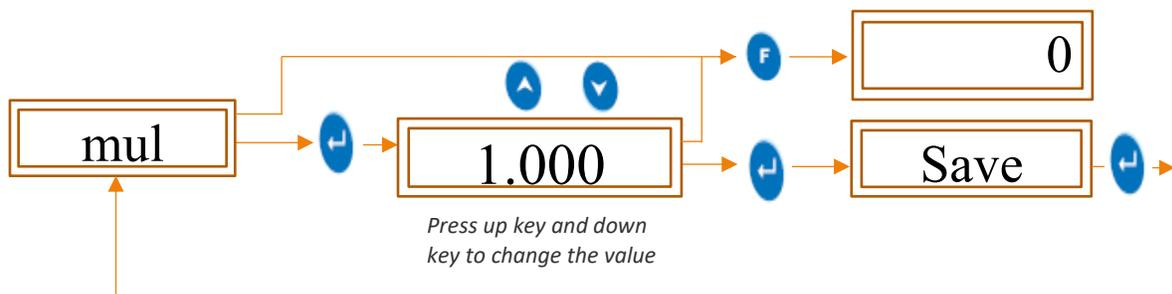

Figure 18 MUL (Multiplier)
- To set the Multiplier, follow the procedure shown in figure 18.